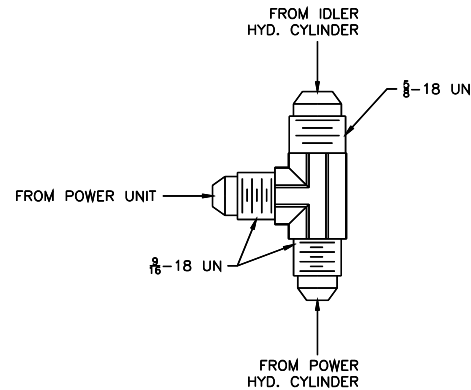

Fig 7 – Hyd. Tee Fitting
- 21) The hydraulic hose from the idler cylinder to the tee fitting are slightly larger and have a different size fitting. Note during installation to attach the hoses in the correct end of the tee. **Fig 7**.